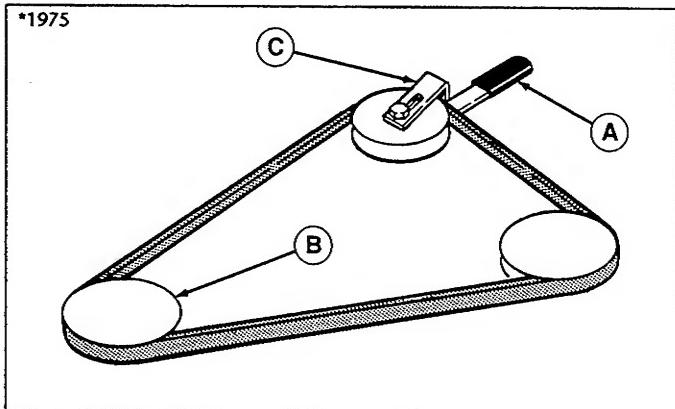
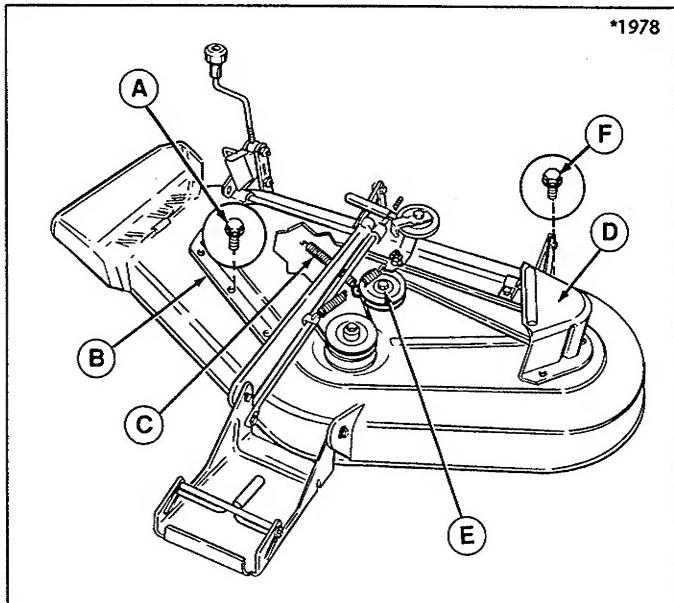

Figure 28.
Figure 29.
2. If mower is not removed, pull idler pulley arm (A, figure 28) towards you to relieve belt tension. Drop belt from electric clutch pulley (B).
3. Loosen nut, lockwasher and flat washer securing bracket belt stop (C).
4. Remove three capscrews securing left hand arbor cover (D, figure 29).
7. Index the bracket belt stop (C, figure 28) up against idler pulley arm (A) as shown in figure 29. Make sure there is a 1/8" gap between belt stop and pulley.